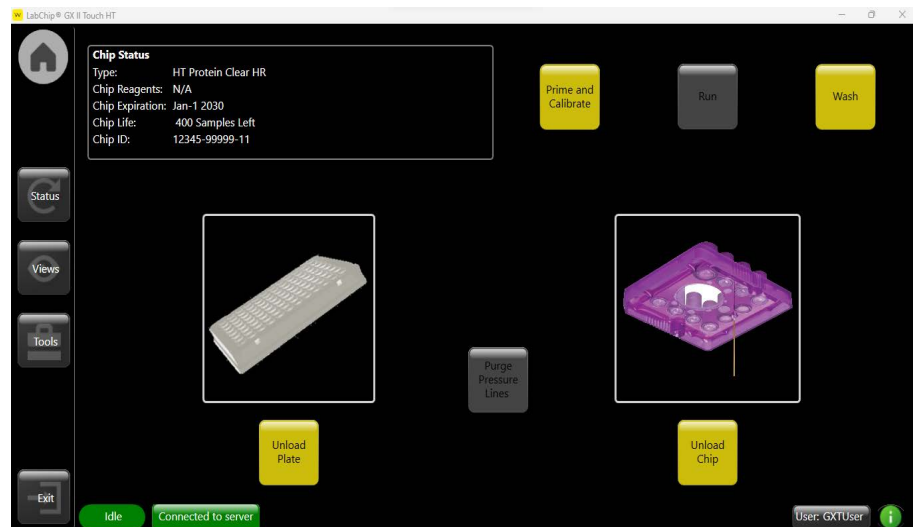

Figure 5. Home screen.
- 2 Touch the *Load Plate* button on the *Home* screen (Figure 5) to retract the sample plate and move the sipper to the Buffer Tube.
- 2 Touch the *Unload Plate* button on the *Home* screen (Figure 5 on page 16) and replace the plate containing the VeriMAb Standard with the plate containing samples. Leave the buffer tube and ladder tube in place and touch the *Load Plate* button.
- b Touch the *Purge Pressure Lines* button on the Home screen (see Figure 5 on page 16).